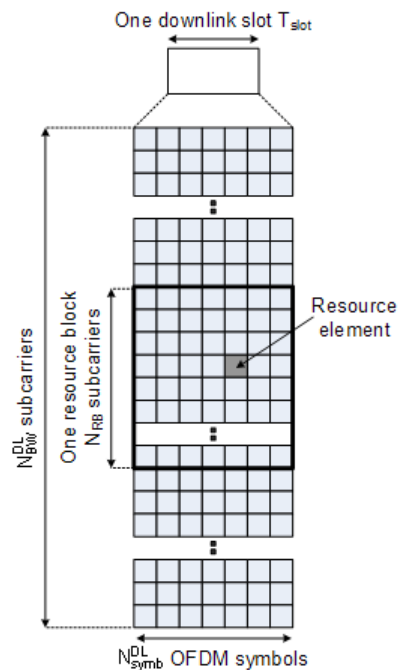

Fig. 1-5: Downlink Resource Grid
figure 1-5 shows the structure of the downlink resource grid for the duration of one downlink slot. The available downlink bandwidth consists of N_{BW}^{DL} subcarriers with a spacing of $\Delta f = 15$ kHz. In the case of multi-cell MBMS transmission, a subcarrier spacing of $\Delta f = 7.5$ kHz is also possible. N_{BW}^{DL} can vary in order to allow for scalable bandwidth operation up to 20 MHz. Initially, the bandwidths for LTE were explicitly defined within layer 1 specifications. Later on a bandwidth agnostic layer 1 was introduced, with N_{BW}^{DL} for the different bandwidths to be specified by 3GPP RAN4 to meet performance requirements, e.g. for out-of-band emission requirements and regulatory emission limits.
Data is allocated to the UEs in terms of resource blocks. A physical resource block consists of 12 (24) consecutive subcarriers in the frequency domain for the $\Delta f=15$ kHz ($\Delta f=7.5$ kHz) case. In the time domain, a physical resource block consists of $N_{\text{sym}b}^{DL}$ consecutive OFDM symbols, see figure 1-5. $N_{\text{sym}b}^{DL}$ is equal to the number of OFDM symbols in a slot. The resource block size is the same for all bandwidths, therefore the number of available physical resource blocks depends on the bandwidth. Depending on the required data rate, each UE can be assigned one or more resource blocks in each transmission time interval of 1 ms. The scheduling decision is done in the base station (eNodeB). The user data is carried on the physical downlink shared channel (PDSCH). Downlink control signaling on the physical downlink control channel (PDCCH) is used to convey the scheduling decisions to individual UEs. The PDCCH is located in the first OFDM symbols of a slot.